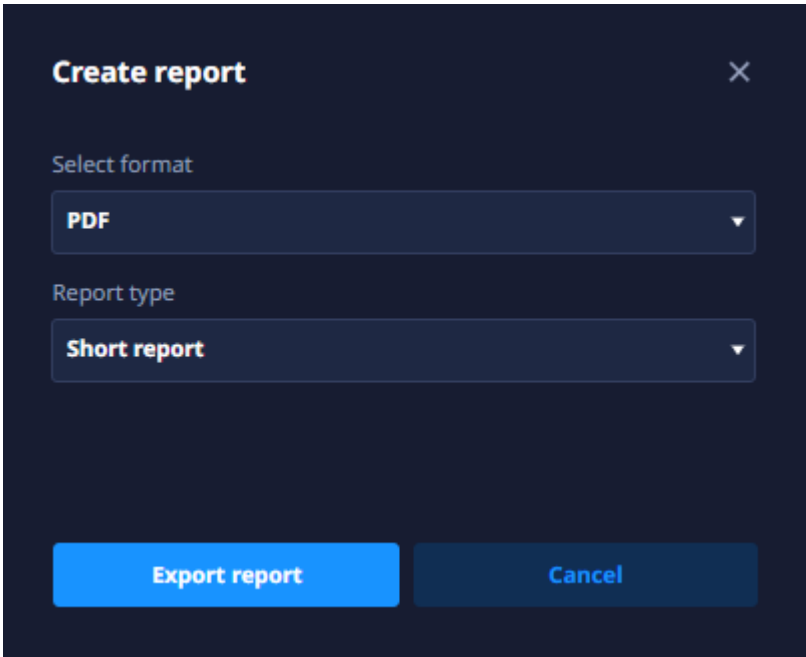

Figure 72. Creating report on incident group
4. In the window that opens, select the report format — PDF or CSV. In the **Report type** field, select Short or Full report depending on the required level of detail (see Figure 72).